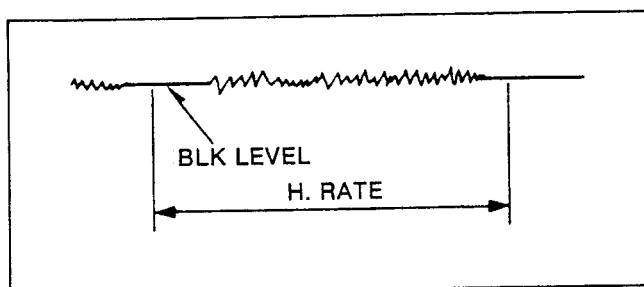

Fig. C16
- (1) Cover the camera lens with lens cap.
- (2) Connect the oscilloscope to TP514 and trigger with Pin7 of FP306 (H-rate).
- (3) Adjust the VR301 (Pedestal level control) so that the signal level equals the BLK (Blanking) level as shown in Fig. C16.